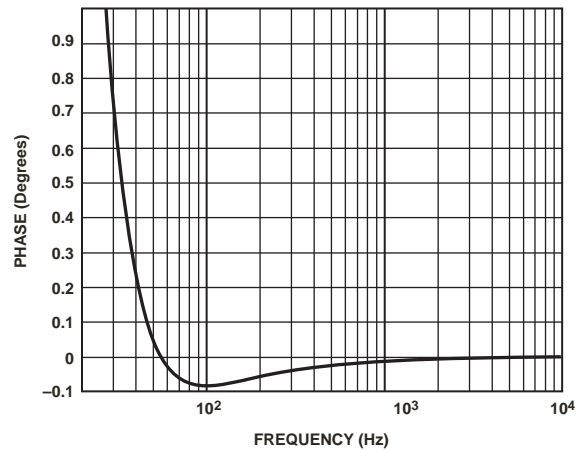
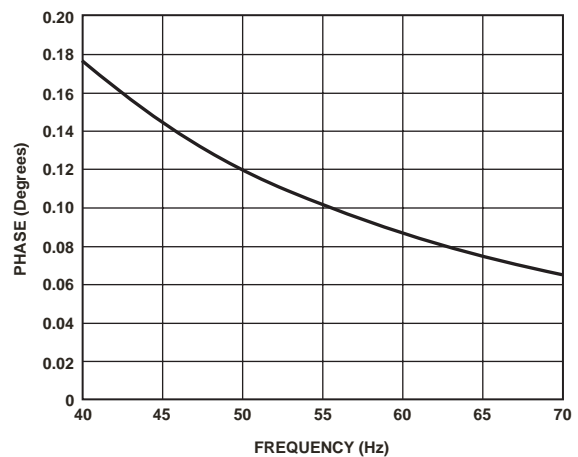
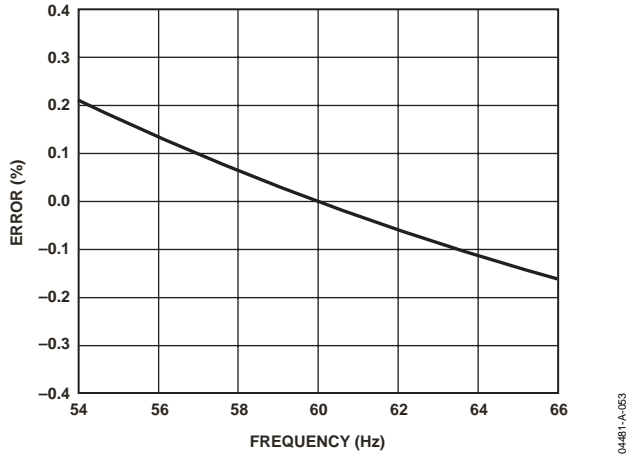

Figure 50. Combined Phase Response of HPF and Phase Compensation (10 Hz to 1 kHz)
Figure 51. Combined Phase Response of HPF and Phase Compensation (40 Hz to 70 Hz)
Figure 52. Combined Gain Response of HPF and Phase Compensation
When the HPF is disabled, the phase error between Channel 1 and Channel 2 is 0 from dc to 3.5 kHz. When HPF is enabled, Channel 1 has the phase response illustrated in Figure 50 and Figure 51. Figure 52 shows the magnitude response of the filter. As seen from the plots, the phase response is almost 0 from 45 Hz to 1 kHz, which is all that is required in typical energy measurement applications. However, despite being internally phase-compensated, the ADE7763 must work with transducers, which could have inherent phase errors. For example, a phase error of  $0.1^\circ$  to  $0.3^\circ$  is not uncommon for a current transformer (CT). Phase errors can vary from part to part and must be corrected in order to perform accurate power calculations. The errors associated with phase mismatch are particularly noticeable at low power factors. The ADE7763 provides a means of digitally calibrating these small phase errors by allowing a short time delay or time advance to be introduced into the signal processing chain to compensate for these errors. Because the compensation is in time, this technique should only be used for small phase errors in the range of  $0.1^\circ$  to  $0.5^\circ$ . Correcting large phase errors using a time shift technique can introduce significant phase errors at higher harmonics.